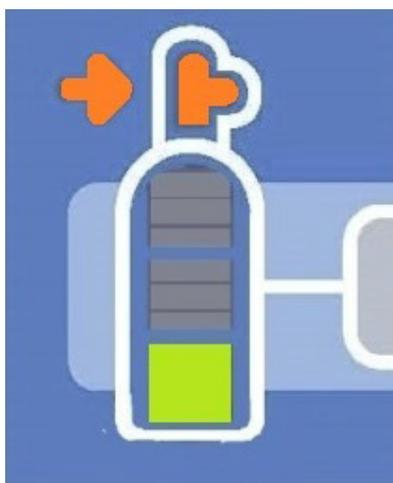

Figure 7: Low Pressure Indicator
- If the Low-Pressure indicator, as seen in Figure 7, illuminates amber this indicates that the cryoICE BOX is not detecting proper pressure. Check to ensure that the gas cylinder valve is open fully and that the cylinder you have attached is not empty.